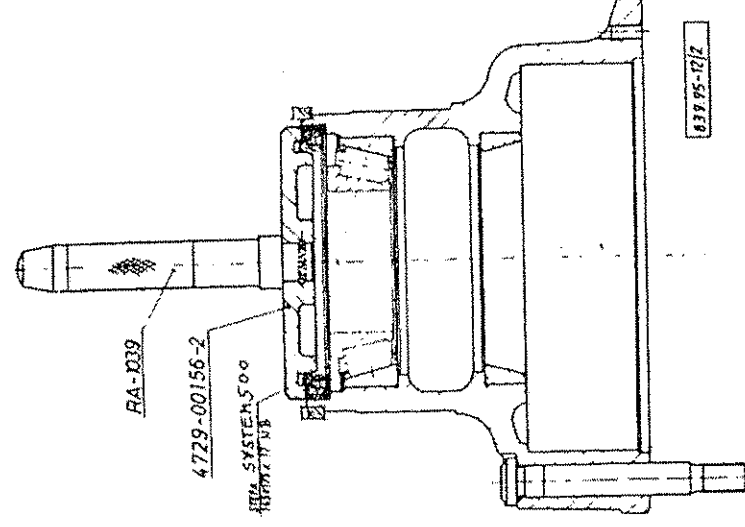

Fig. 3: PRESSING IN THE SEALING RING
Position the inner part of the inner taper roller bearing (32) into the cup race. Apply thin coat of oil-resistant surface sealant to the sealing ring seat, then by means of the tools shown in Fig. 3, press the sealing ring (8) into the wheel hub.